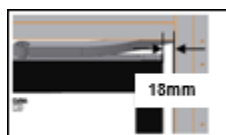
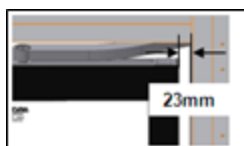

Figure 1.5: IG3 door
Figure 1.6: IG4 door
2.	Check also if the distance between the profiles of the door leafs and the aperture is 18mm (IG3 door, see Figure 1.5) or 23mm (IG4 door, see Figure 1.6). In theory the distance should be even at both sides. (With pressure). Do not measure from the door seals but only from the profiles.